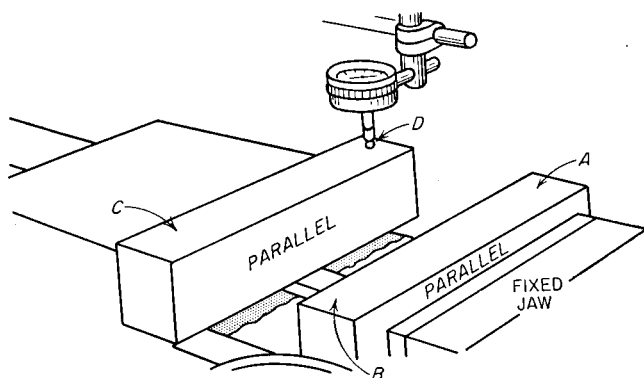

Fig. 2-32.
10. Get readings at points A, B, C, and D (Fig. 2-32).